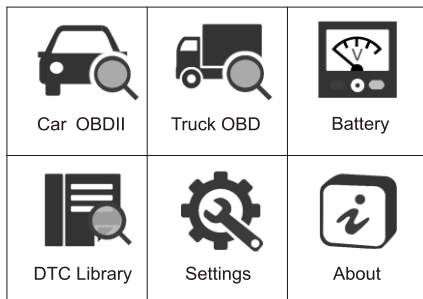

Figure 4-1
6. After finishing, the system will enter the main menu interface, as shown in Figure 4-1.